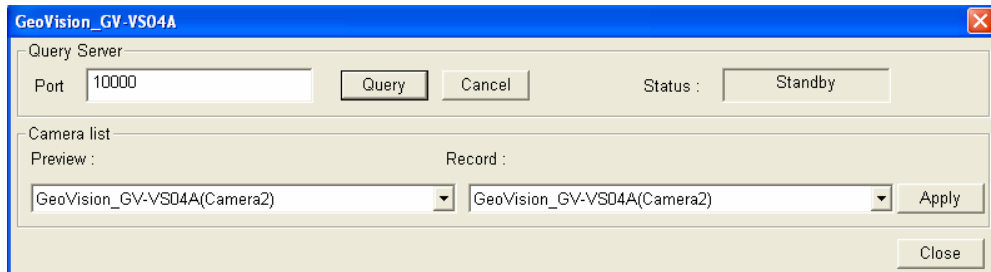
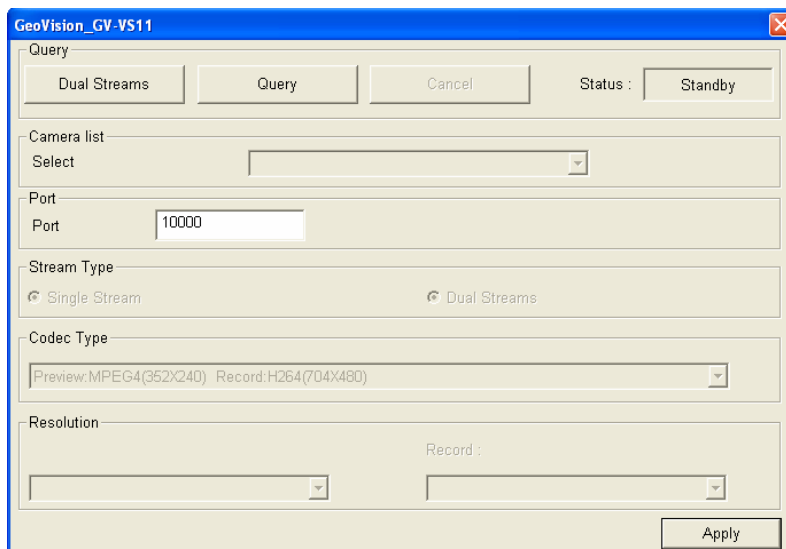

Figure 7-4
Figure 7-5
**Note:** If the GV-Video Server is not being detected, modify the HTTP port (Figure 7-3) and streaming port (Figure 7-4 or Figure 7-5) to match those of the IP camera, and click the **Query** button to detect the IP camera again.